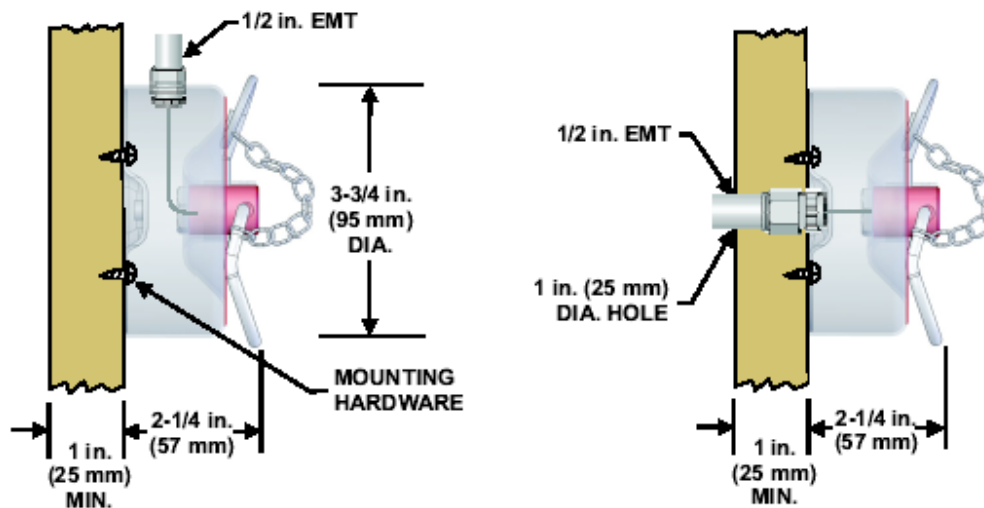

Figure 4-52. Installing the Remote Manual Release, P/N 875572
1. Attach a length of 1/16-inch steel cable to the Remote Manual Release handle, as follows (refer to Figure 4-52):